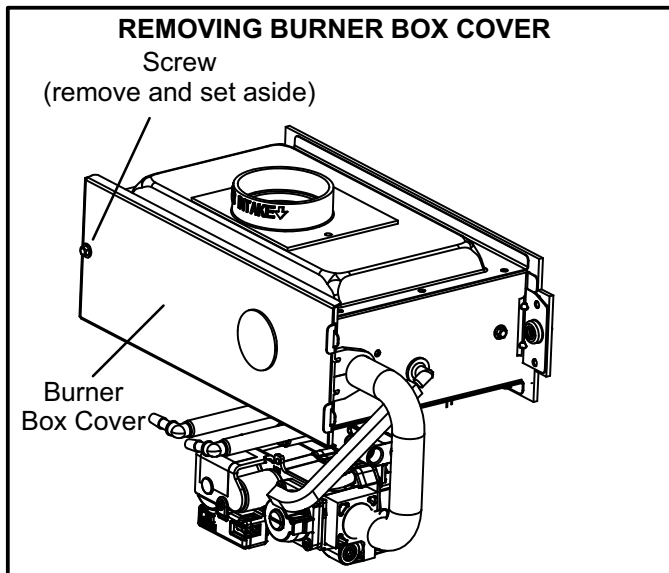

FIGURE 1
7. -Remove and discard the burner box cover. Set existing screw aside. See figure 1.